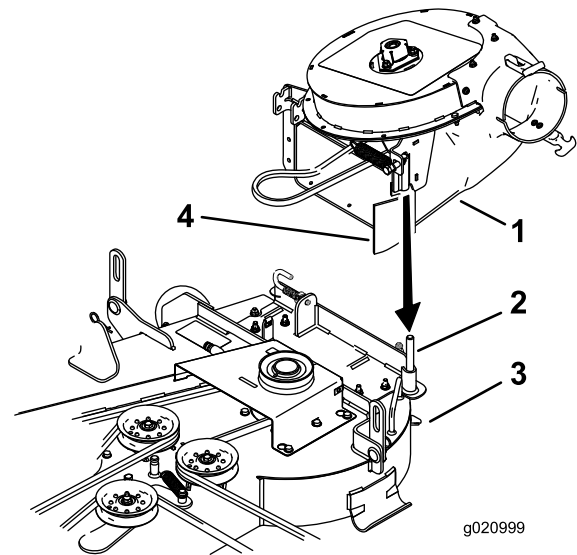

Figure 15
2. Lower the blower and slide the pivot hole onto the pivot pin (Figure 15).
Note: Ensure that the belt remains positioned in the blower pulley and the rubber flap on the blower remains on the outside of the mower deck (Figure 15).